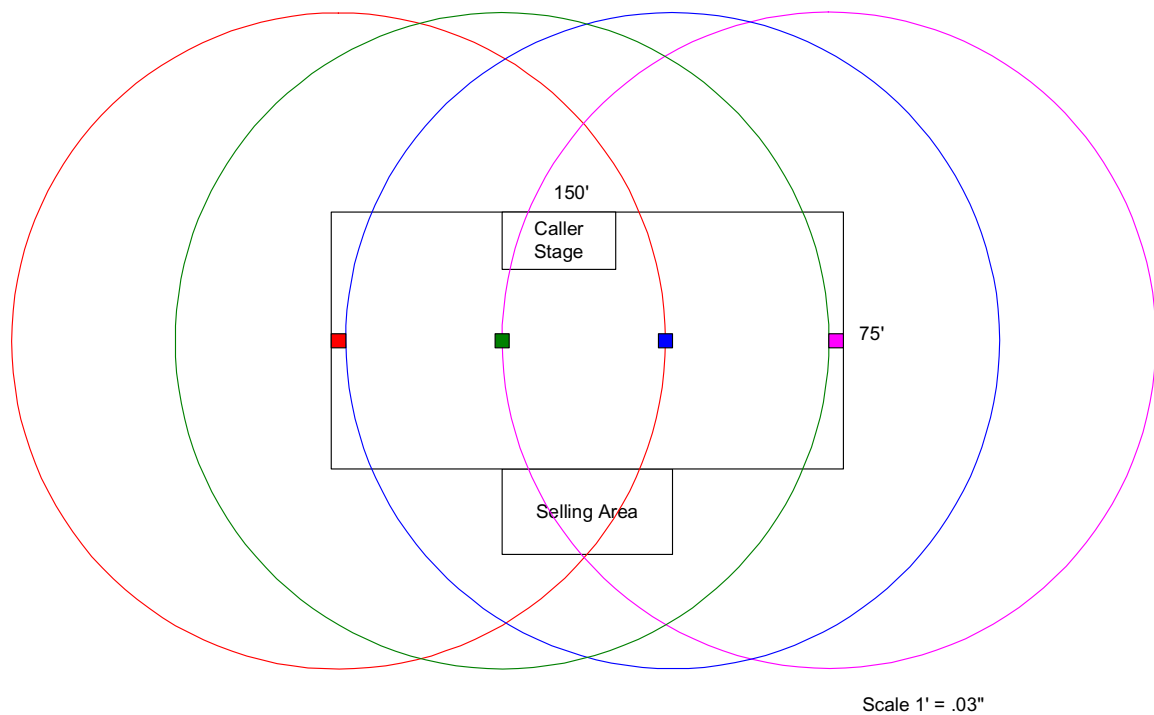

Figure 5. Sample Hall Diagram
Use the site survey form to begin the evaluation of RF in a bingo operation. Diagraming the hall is an important step to lay out the necessary testing areas. Figure 5 provides a sample hall on which to base your diagram. If the hall has more than one room, each room will need to be diagramed individually. Create an architectural diagram of the hall using the graph paper located in the site survey form.
- Using the site survey form to create a diagram, cut out four circles representing the 100' radius of the transmitters. Adhere to the rule that each location on the floor must be able to see at least two transmitters. The sample hall in Figure 5 displays the radiation patterns of each respective transmitter. (The scale of the drawing has been reduced for this document.)